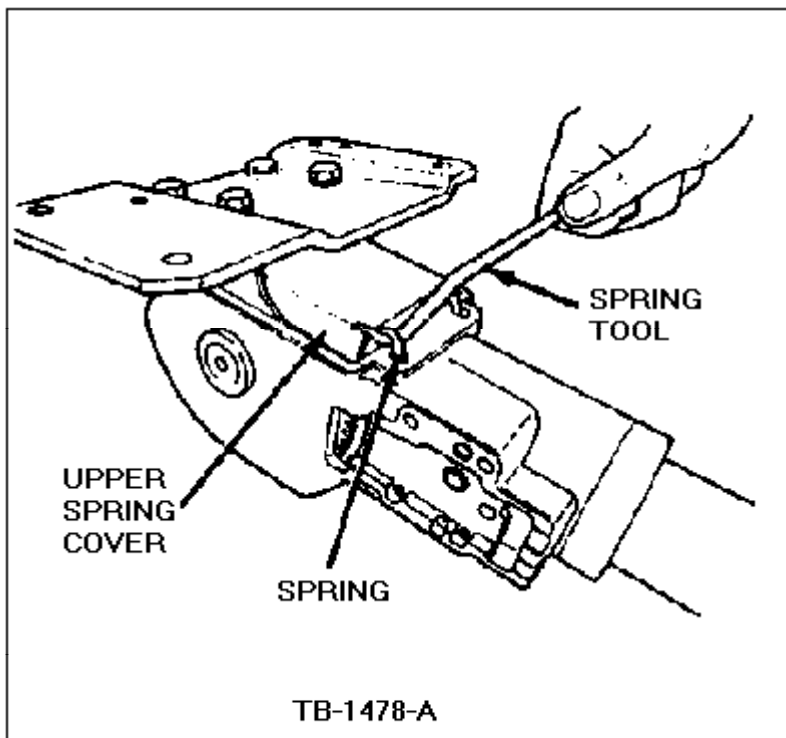

Figure 11 - Article 90-5-10
13. Detach the springs from the main housing, Figure 11.